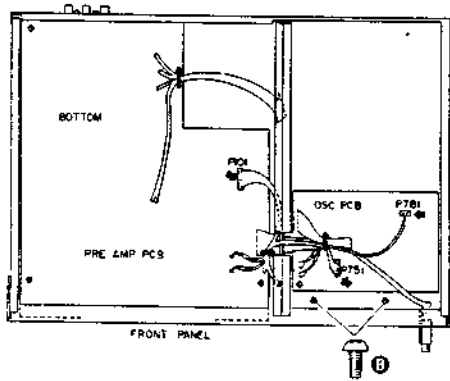

Fig. 3-4
- 1) Remove connector P101 from the PRE AMP PCB and the P751 and P781 from the OSC PCB. Next, remove mechanism block securing screws (A) (Refer to Fig. 3-4.)